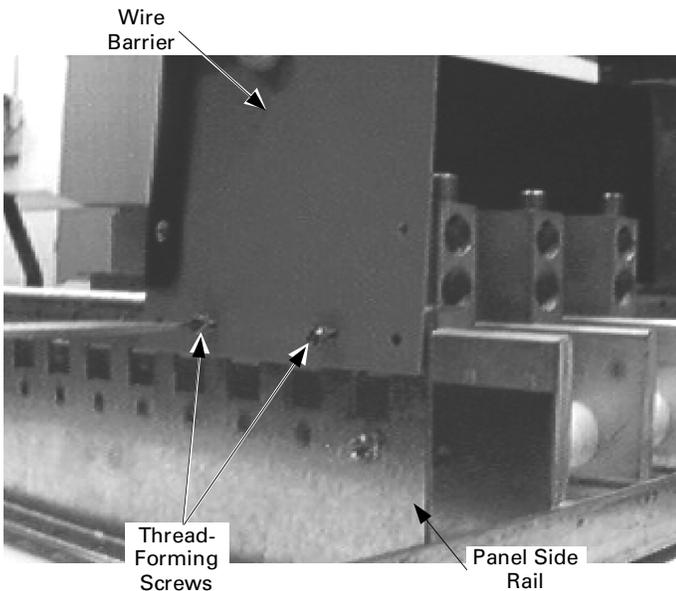

Figure 5. Installing the wire barriers.
5. **Install the wire barriers.** Position the upper edge of the wire barriers flush with the panel side rails or Z rails, as shown in Figure 5. Fasten the wire barriers to the panel side rails or Z rails using the thread-forming screws supplied.